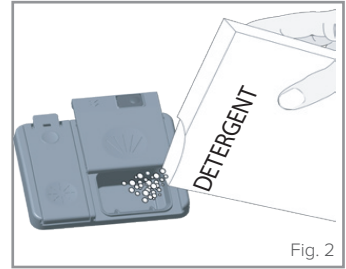

Fig. 2
2. Add the required amount of detergent. The main detergent compartment (b in Fig. 2) has lines to allow for specific amounts of detergent.
If your dishes are in need of an intensive wash, then add 5cm³ of detergent into the prewash section of the compartment (a in Fig 2).